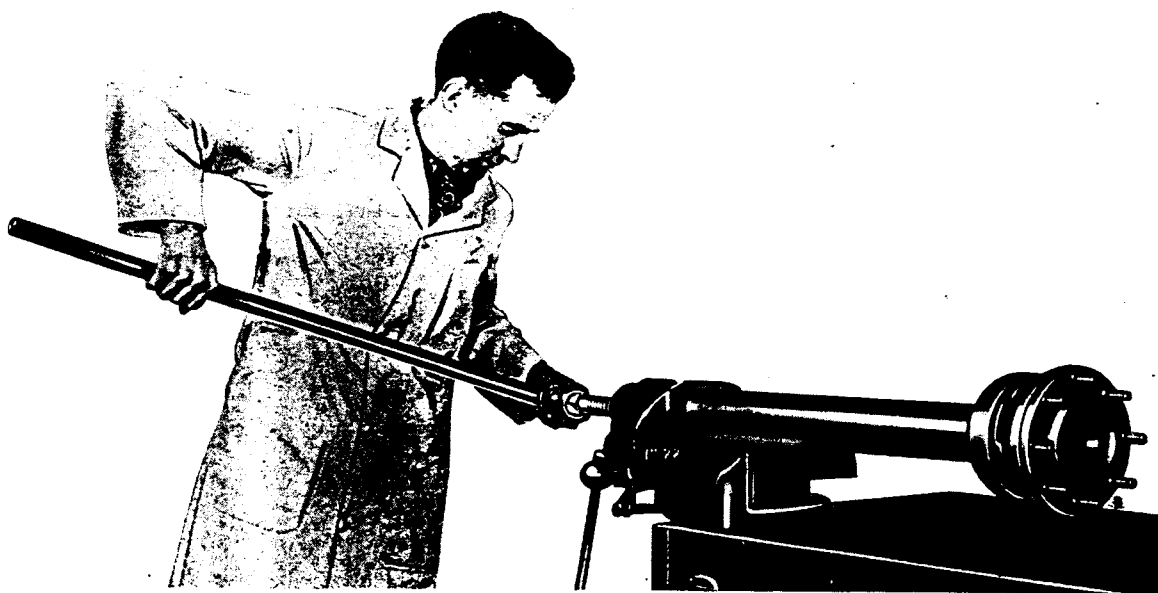

FIG. 4
6. With tool mounted securely in bench vice, apply a slight load as shown in Fig. 4, then smartly tap all round bearing retainer with a copper-faced mallet.